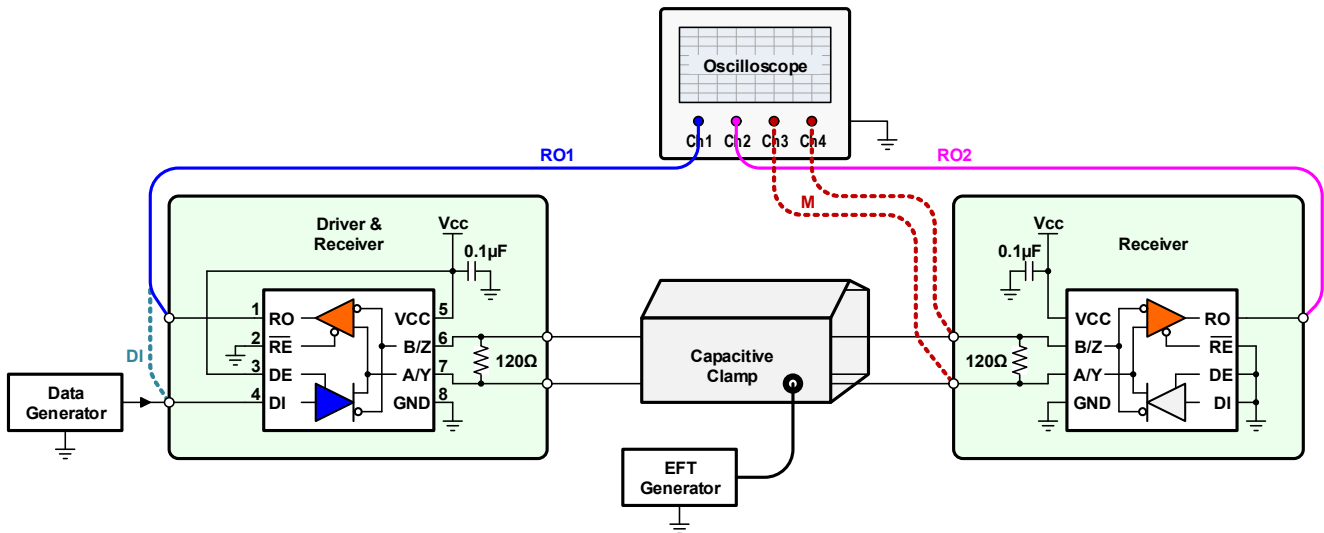

Figure 4. Schematic of Laboratory Test Setup
Figure 4 shows the schematic of the test setup for testing the EFT immunity of RS-485 transceivers. A data signal in form of a square wave is applied to the data input (DI) of the left node. This node is configured as a driver whose output signal is looped back to the receiver output (RO1) and captured with the oscilloscope. The driver transmits data to the receiving node on the right, whose output (RO2) is also captured with the scope. For each EFT test, the test voltage is raised and applied while transmitting data, until one of the transceivers latches up.